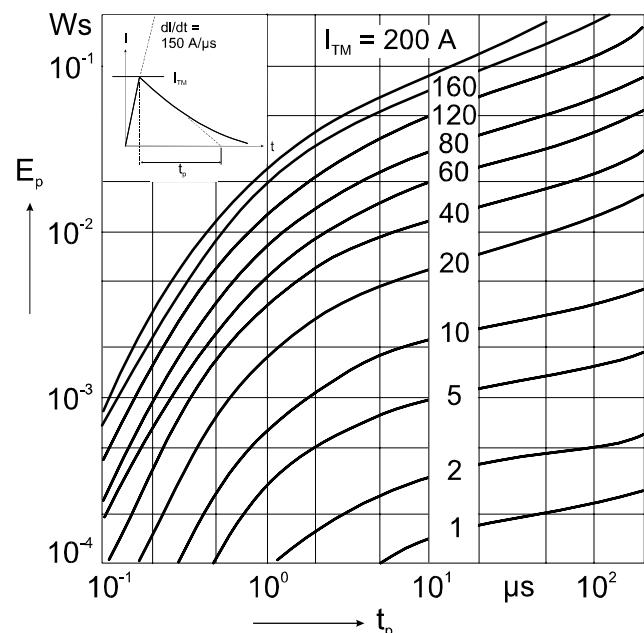

Fig. 6 Energy per pulse for single BOD element for exponentially decaying current pulse. E_p must be multiplied by number of elements for total energy.
- a. The maximum junction temperature shall be calculated for a module IXBOD 1-30R at an ambient temperature $T_a = 60^\circ C$, an exponentially decaying current $I_{TM} = 40A$, a pulsewidth $t_p = 2 \mu s$, an operating frequency $f = 50 Hz$ and natural convection. From the diagram Fig. 6 the energy per pulse is obtained: